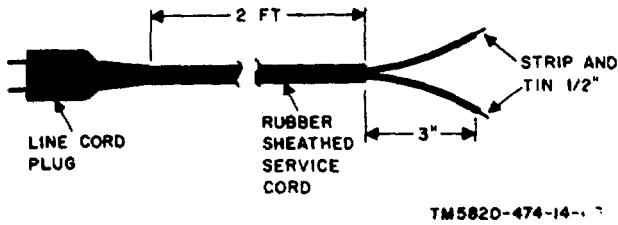

Figure 46. Test Cable No. 1, construction details.
a. *Test Cable No. 1* (fig. 46). Test cable No. 1 is used to connect the output of the CN-16 (*) U to the primary of the step-up transformer when either power supply is tested. One cable is required.